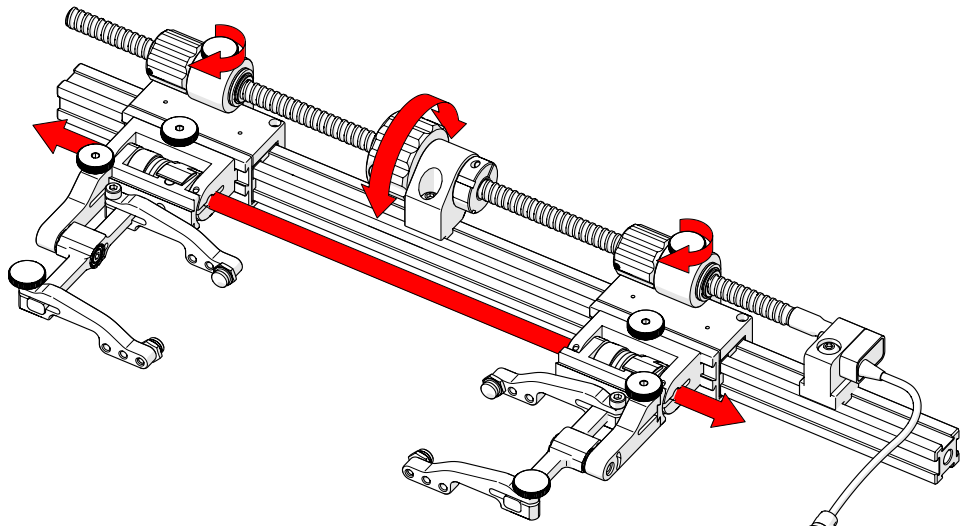

Fig. 160 - Simultaneous slider positioning
3. Ensure the slider knobs are tight and rotate the main knob to position both sliders simultaneously (*Fig. 160*).